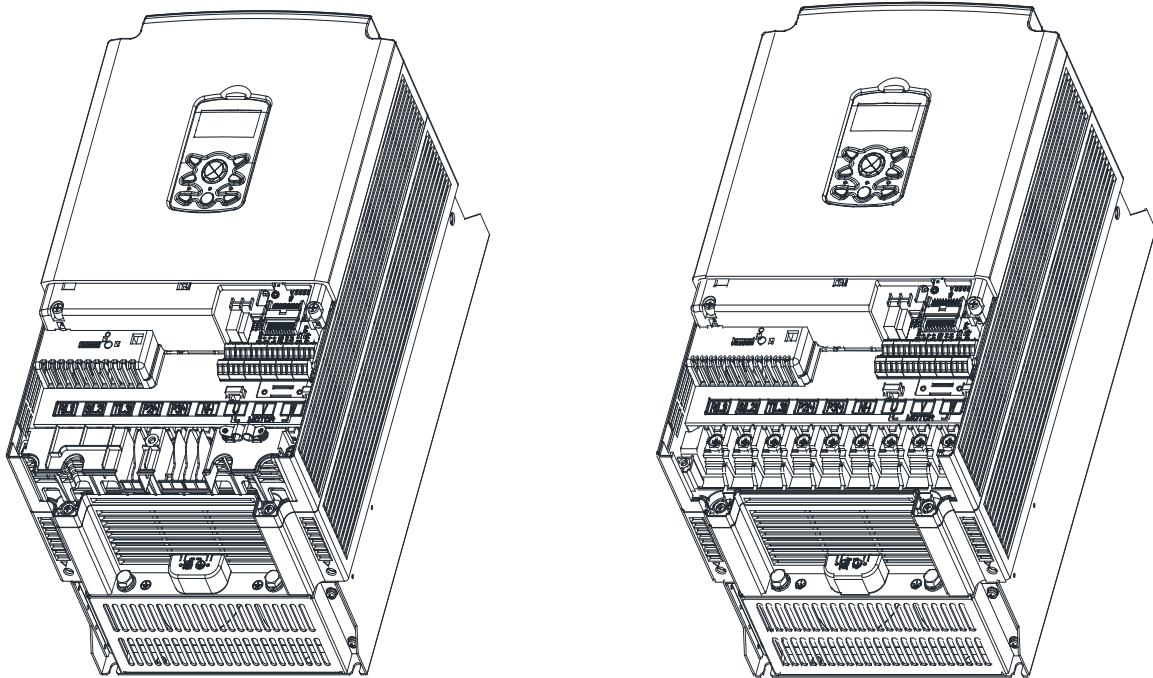

Figure 7. Remove Power Cover and CABLE Guide
- ① Remove the Power cover and cable guide of the product as shown in the Figure 7.